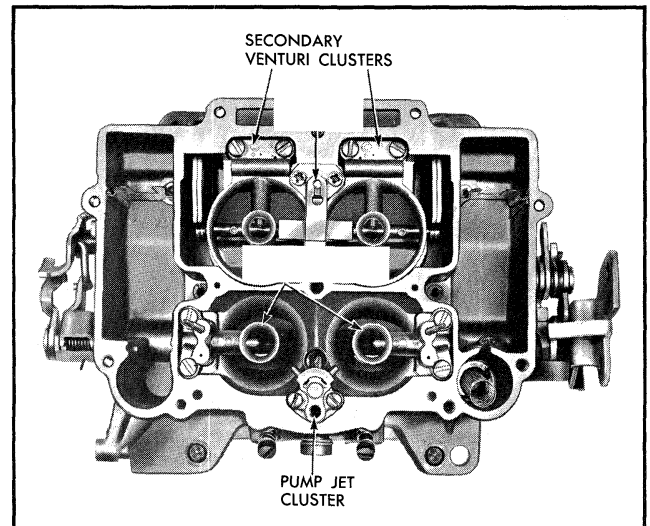

Fig. 6B-80 Top View of Carburetor Body Assembly
3. Remove choke lever attaching screw. (Fig. 6B-79). Remove choke piston, lever and link assembly by rotating piston from bore.